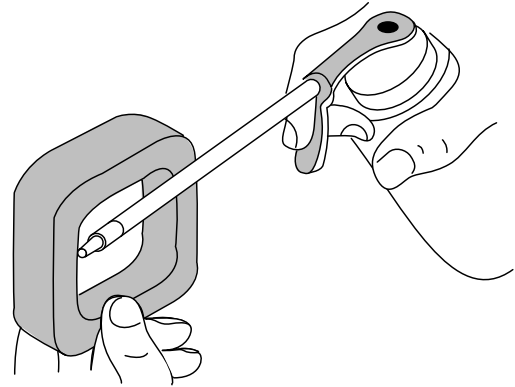

Fig. 45
4. Apply enough clean SAE 30 motor oil to lightly coat the filter (Fig. 45).